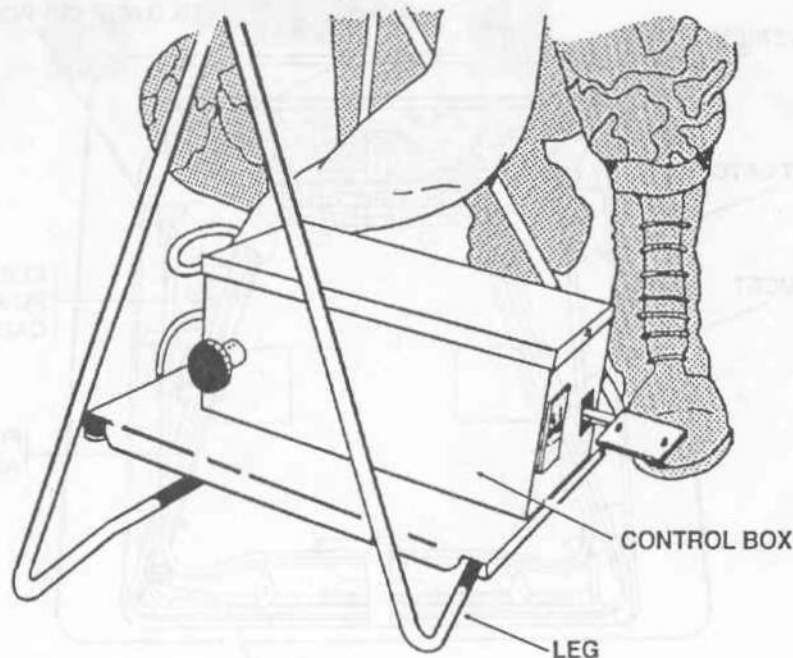

Figure 2-5. Control box installation.
b. Hook the front of the control box over the front lower leg of the frame assembly. Then, using your foot to keep the legs stationary, hook the rear of the control box over the rear leg. Adjust the position of both legs to snugly fit the control box onto the legs as illustrated in figure 2-5.